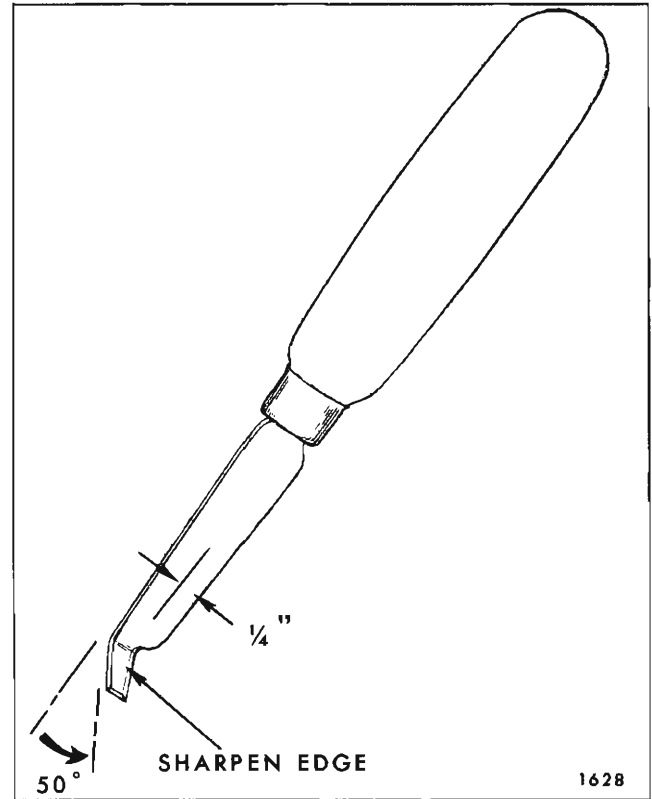

Fig. 1J4—Fabric Cover Trimming Knife
l. Cement fabric cover to rear compartment front and shelf below back window opening. Be certain dielectric seams are straight. (See View "A" Fig. 1J1).
8. Using hammer and flat end punch install drive nails at windshield and back window openings. (View "E", Fig. 1J1 shows typical drive nail installation).
**NOTE:** Install fabric cover at windshield pillar area in same manner as original installation. (See View "A", Fig. 1J1).
11. Using fabric cover trimming tool (J-21092), or suitable small knife, trim fabric cover just under lip of roof drip molding. (View "C", Fig. 1J1). A tool may be fabricated to trim material along side roof rail moldings as illustrated in Figure 1J4.
flange. (See View "C", Fig. 1J1). Use fibre or wood block with slight concave end to push retainer downward. **DO NOT DAMAGE RETAINER.**